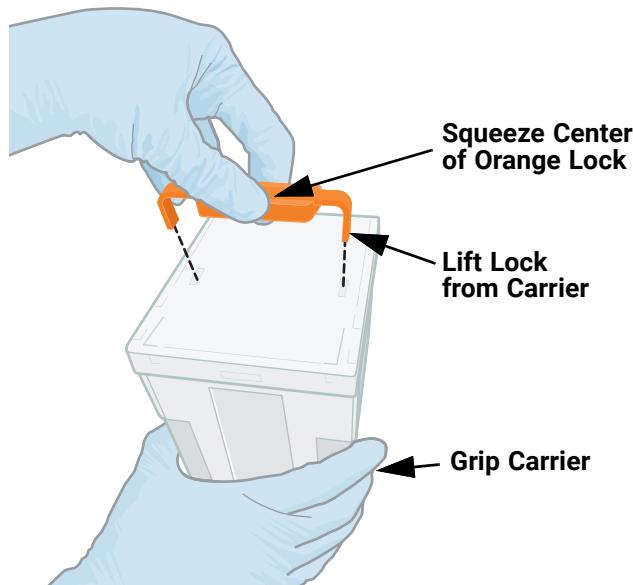

Figure 4-16. Remove Lock from Consumables Carrier
12. Squeeze the center of the orange lock on the top of the consumables carrier. See Figure 4-16.